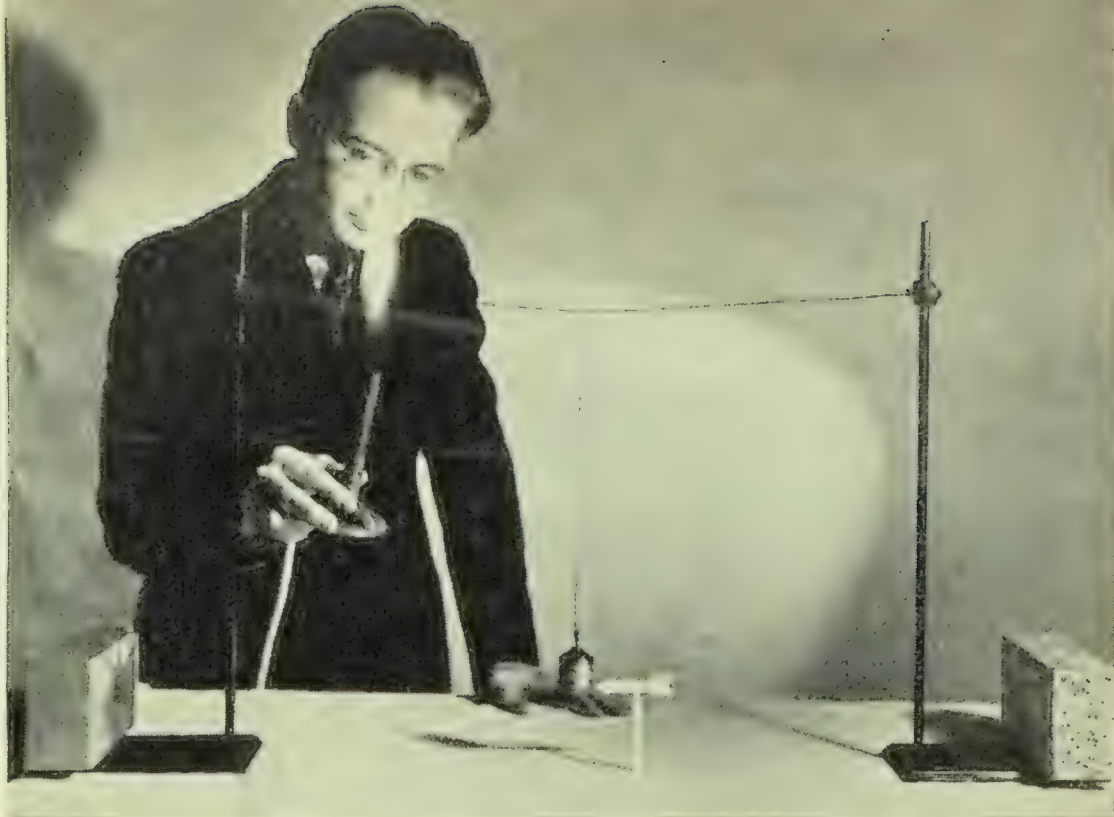

FIG. 33. Apparatus for Experiment 7
*Experiment 7.* WHAT EFFECT DO HEATING AND COOLING HAVE UPON A COPPER WIRE? Attach a piece of copper or iron wire about two feet long to two iron stands or other supports (Figure 33). Hang a small weight from the centre and stretch the wire as tightly as possible. Carefully mark the distance of the weight above the table. Now heat the wire along its whole length with a Bunsen burner or other flame. Again notice the height of the weight. Does the height change? How does the length of the hot wire compare with the length of the cold wire? Now allow the wire to cool. What happens? What is your answer to the problem you were trying to solve?